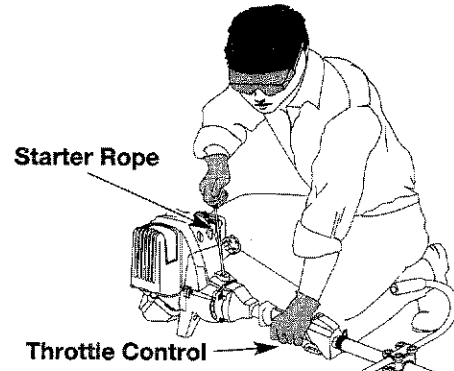

Fig. 22
5. With the unit in the starting position (Fig. 22), pull the starter rope briskly until the engine starts.
6. When the engine starts, move the choke lever to the **RUN** (C) |↑| position, and run at full throttle for 30 seconds.
1. Release your hand from the throttle control (Fig. 22). Allow the engine to idle.